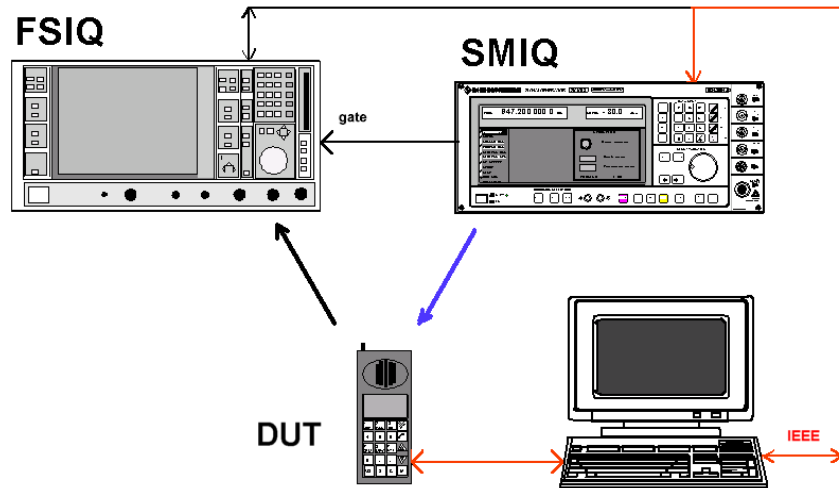

Fig. 10: Signal paths for bit error measurement with decoded bits returned
- The UT returns the **decoded bits** to the production line computer. The computer evaluates the bits. Fig. 10 shows the active signal paths for this method.
Fig. 10 shows the signal paths active with the UT returning the **decoded bits** to the production line computer.